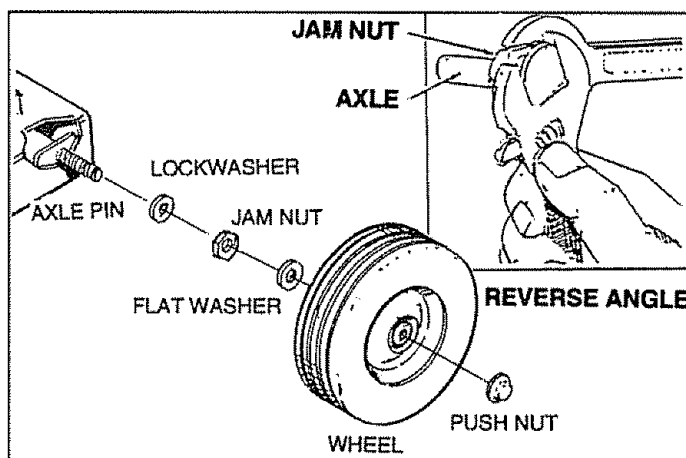

FIG. 1
- Prop up the engine end of the main unit. This will allow you to slip each axle pin into the holes provided on the side of the base (Fig. 1).